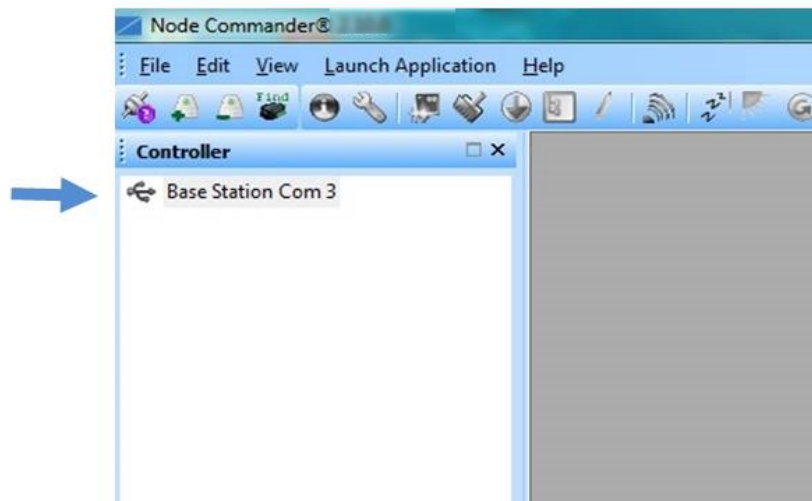

Figure 4 - USB Gateway Communication
4. When connected, the gateway should appear in the Controller window automatically with a communication port assignment (Figure 4 - USB Gateway Communication). If it is not automatically discovered, verify the port is active.